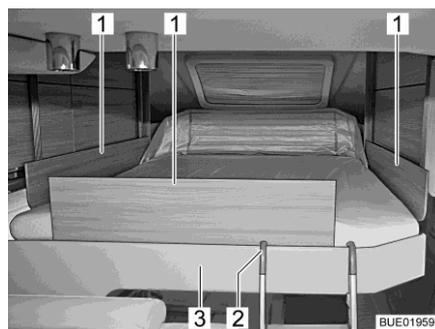

Fig. 145 Pull-down bed with safety plates
- Insert the safety plates (Fig. 145,1) between the mattress and the bed surround (Fig. 145,3).
- Hook both bows of the access ladder (Fig. 145,2) into the bed surround (Fig. 145,3).
- Release the access ladder (Fig. 145,2) from the bed surround (Fig. 145,3).
If it is no longer possible to move the pull-down bed with the arrow keys (Fig. 145,2 and 8), first of all check the fuse Reserve 3 on the transformer/rectifier (see section 9.10.1). If the fuse is okay and it is still not possible to move the pull-down bed, the pull-down bed can be operated manually.